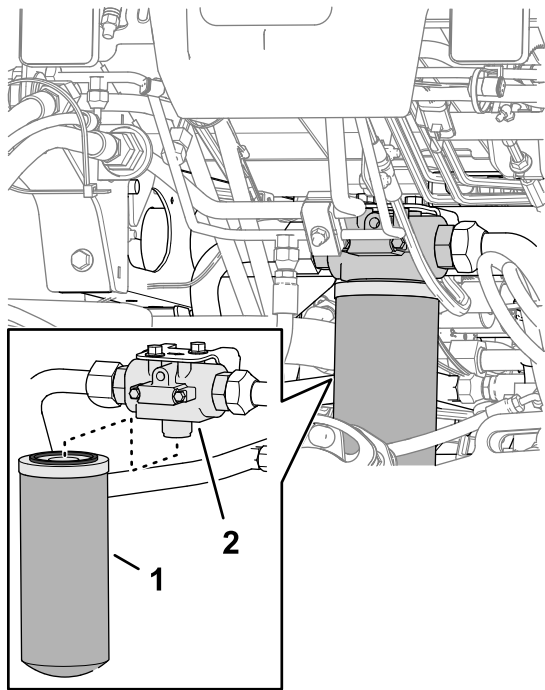

Figure 106
2. At the front of the machine, align a drain pan under the return filter (Figure 106).